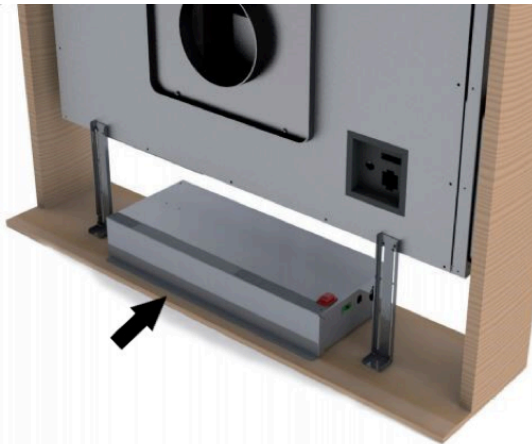

Fig. 23
10. Place the metal box with the electronic components in an easily reachable area for eventual technical assistance operations. (Fig.23),